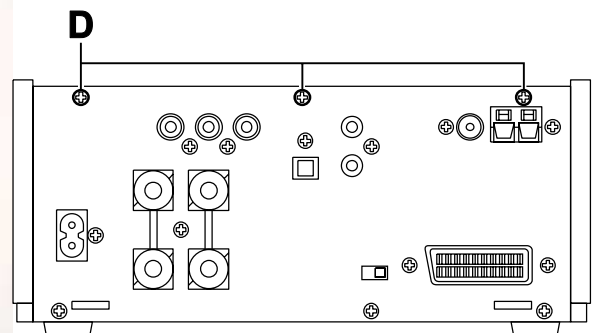

Fig.3
- (4) From the back side of the main body, remove the three screws **D** attaching the bridge C. (See Fig.3.)